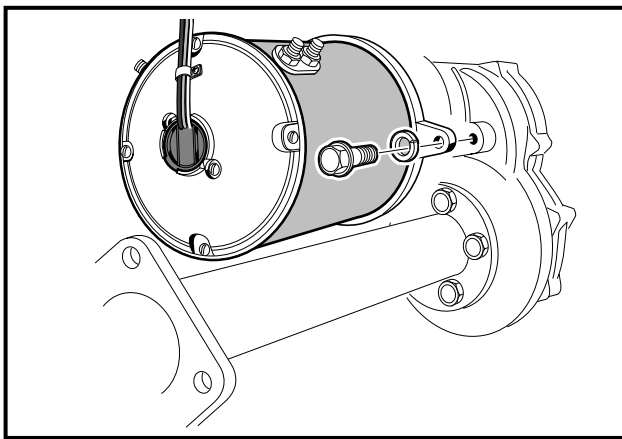

Figure 16a-12 Motor Positioning Bolt
1. To detach axle tubes (14 and 35) from the transaxle housing, remove the bolts and lock washers (8 and 9) (**Figure 16a-5, Page 16a-3**).
2. Remove 11 bolts (24) that hold housing together.
3. Pull the halves of the housing (11 and 20) apart. If necessary, tap lightly on the spline of the input pinion (17). **See following CAUTION.**